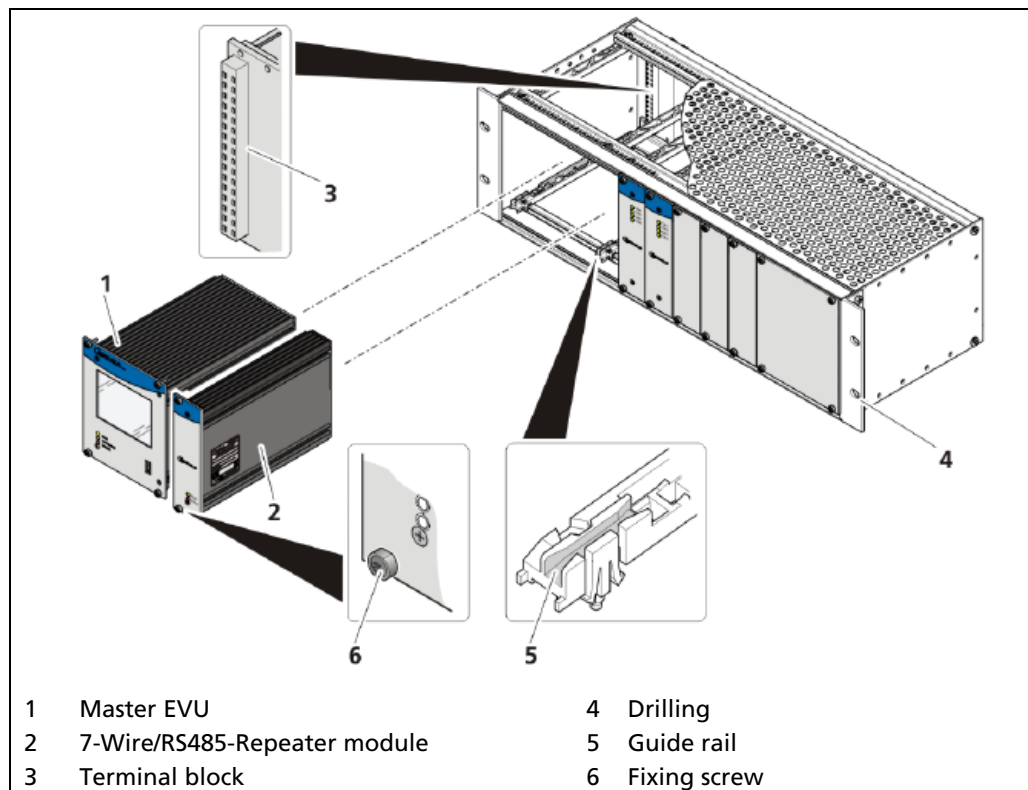

Fig. 11 19" subrack with terminal block (for example equipped with 1x master, 1x 7-Wire/RS485-Repeater module, 2x Current Output/HART modules)
The 19" subrack can be equipped differently, depending on requirements (see customer-specific project documentation). The rear terminal blocks (Fig. 11, item 3) are used for the electrical connection. The subrack is installed in a 19" control cabinet or a control panel (switchboard). The 4 side holes (Fig. 11, item 4) that should be provided with fitting screws are used to fasten the subrack.
- ▶ The master's EVUs, slave modules, 7-Wire/RS485-Repeater module und Current Output/HART module must be secured against pulling out by fixing screws (Fig. 11, item 6).
1. Place the required modules (e.g. Master EVU, 7-Wire/RS485-Repeater module, Current Output/HART module) in the guide rails (Fig. 11, item 5).
3. Tighten fixing screws (Fig. 11, item 6).